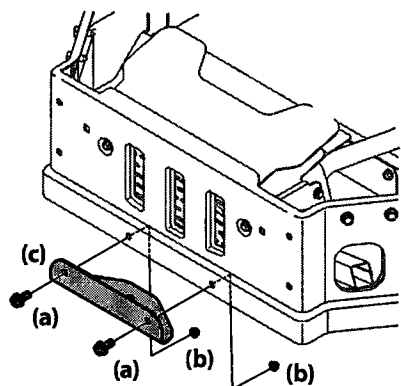

Figure 2-9
1. Remove the hex flange screws (a) and flange lock nuts (b) that secure the hitch bracket (c) to the bumper. See Figure 2-9.